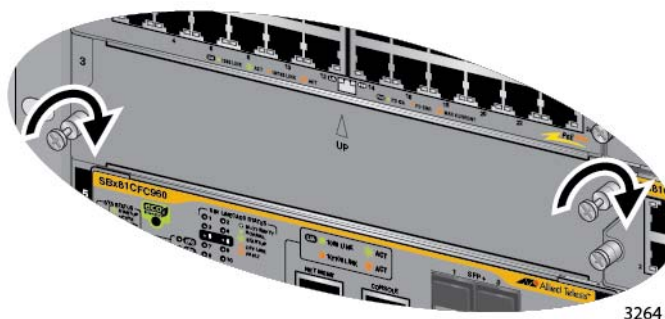

Figure 72. Tightening the Thumbscrews on a Blank Slot Cover
2. Finger tighten the two thumbscrews to attach the blank panel to the chassis, as shown in Figure 72.